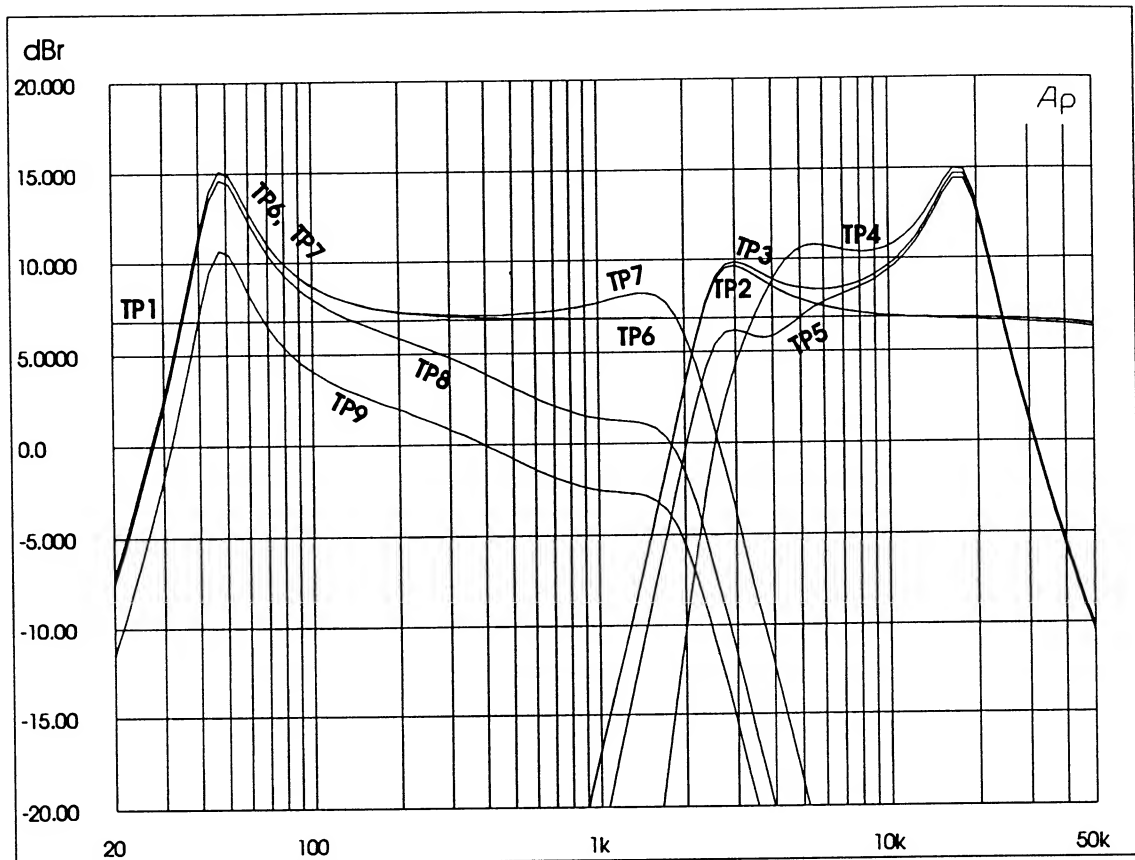
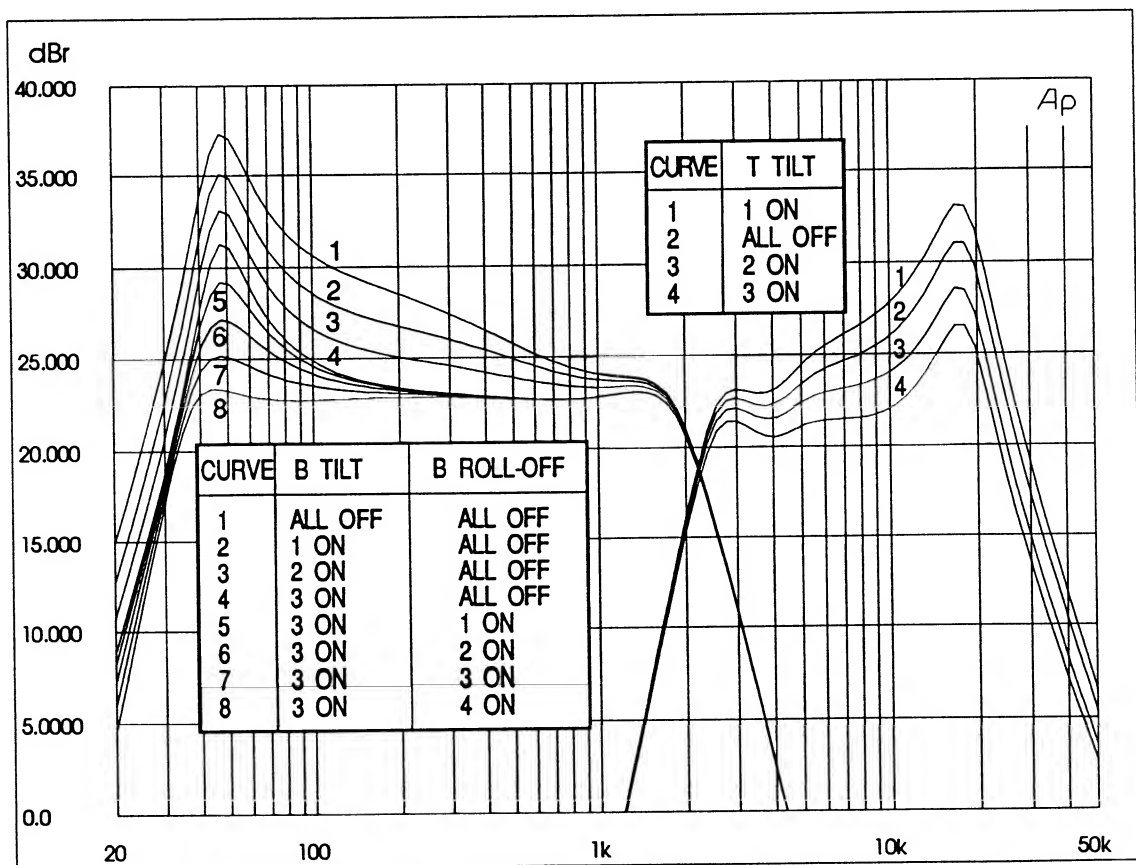
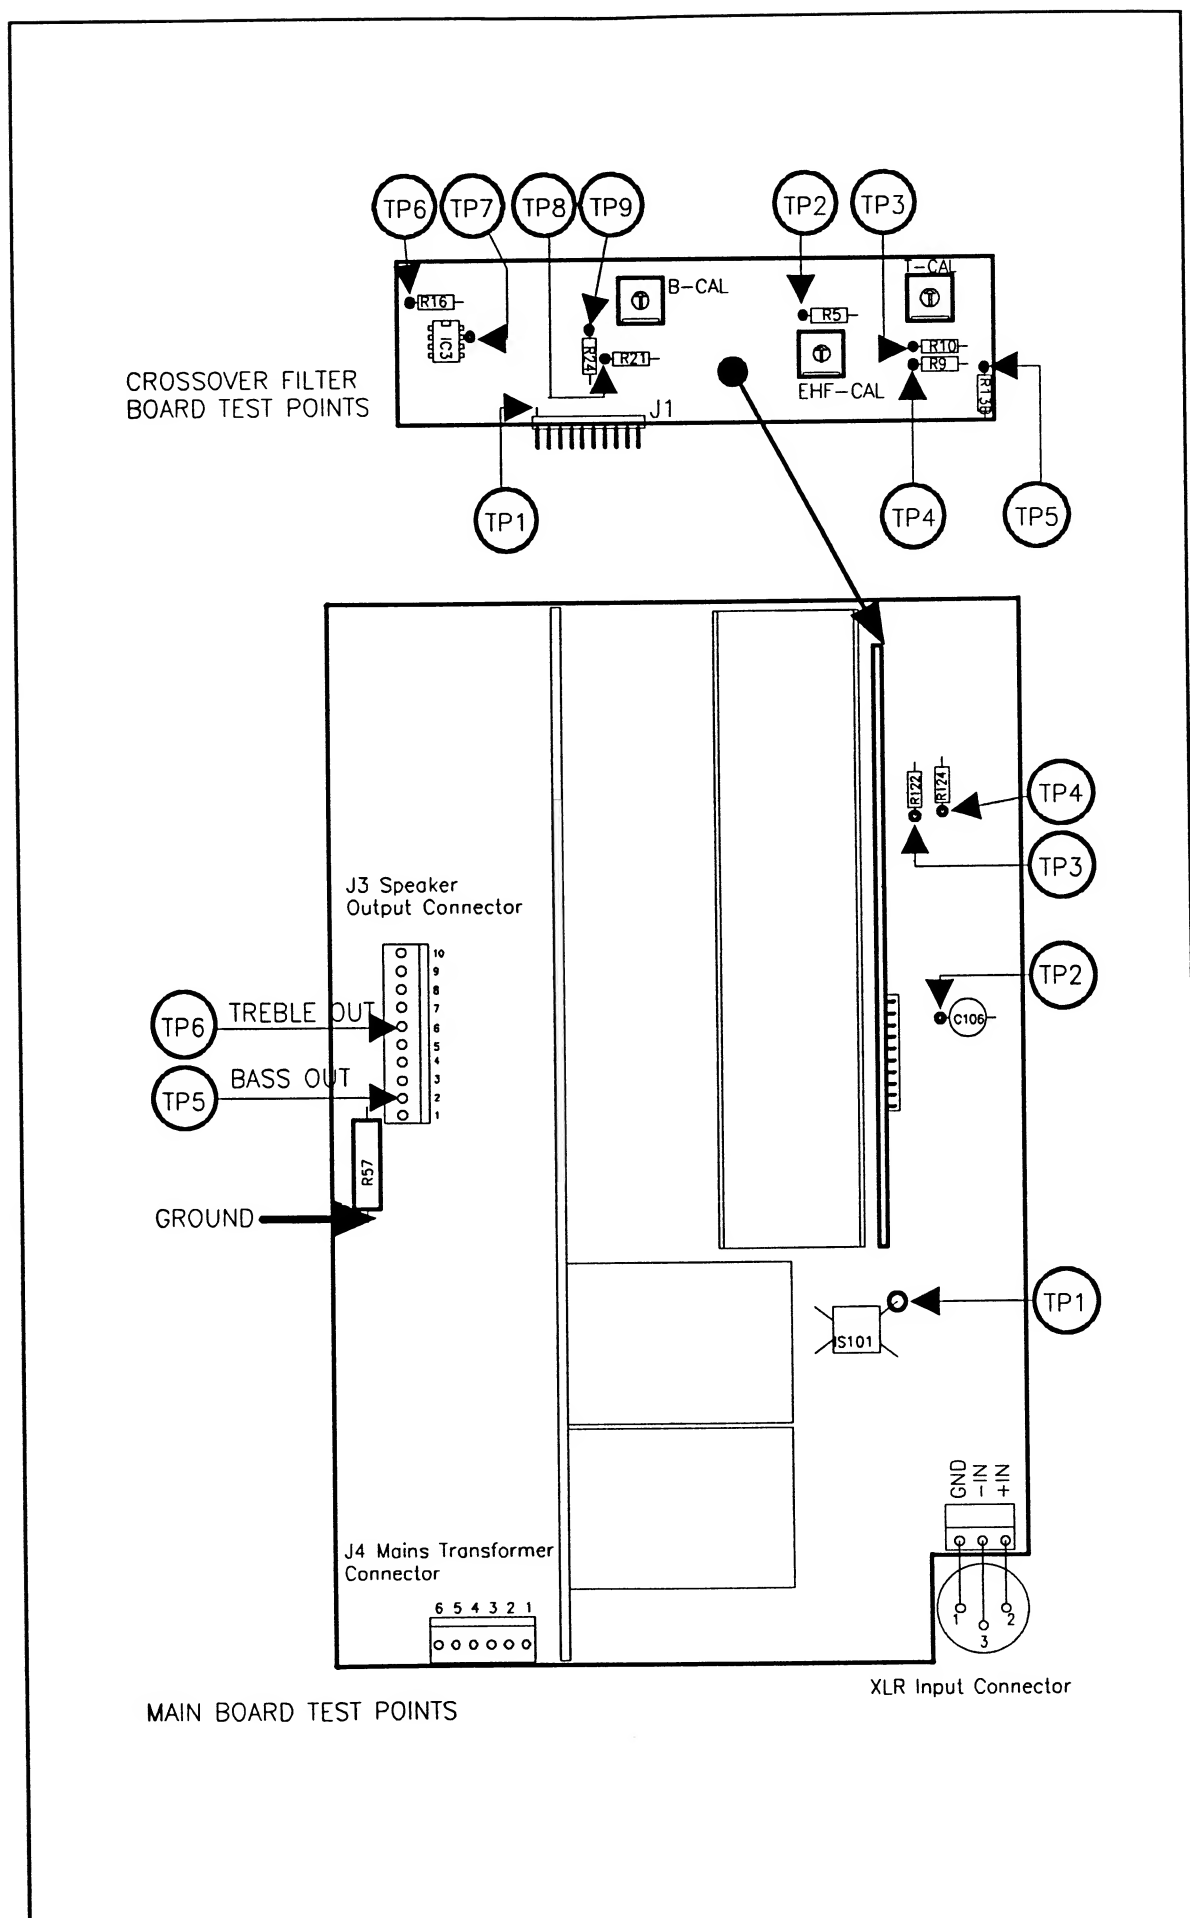

Figure 4.2 Crossover filter response curves
Figure 4.3 Total voltage gain curves and the effect of the crossover controls
Figure 4.4 The location of test points
Troubleshooting information on the 1031A Monitoring System incorporates voltage level values and notes included as part of the circuit diagrams and level diagrams. The curves in figure 4.2 show the frequency responses of crossover filter channels. The vertical scale shows directly the AC voltage gain of bass and treble channels, measured between the XLR-input connector and the test points on the crossover filter board.
Figure 4.3 shows the total voltage gain between XLR input connector and speaker output connector J3 for bass and treble channels. The location of test points is shown in Figure 4.4.
~~NOTE:~~ Note that the total voltage gain values shown in Figure 4.3 depend on the sensitivity of the driver elements, because the channel gain calibrating trimmers TR1, TR2 and TR3 affect the gain and they are set for flat acoustic response. However, the variation should not be more than a few decibels from the values presented.
- Measure the AC voltage levels at crossover filter test points TP6 ... TP9 (see Figure 4.4) at different bass frequencies between 20 Hz and 3 kHz and compare the results to the values read from the response curves in figure 4.2. If a dB scaled AC voltage meter is available the gain values can be read directly from meter scale after referencing the meter to input level of 100 mV RMS. Otherwise a simple calculation is needed (gain in dB =  $20 \times \log U_{\text{meas}}/0.1\text{V}$ ).
- Measure the AC voltage levels at the test points TP2 ... TP5 at different treble frequencies between 1 kHz and 20 kHz and compare the results to the values read from the response curves in figure 4.2.
- Repeat steps above but use the main board test points TP5 (pin 2, bass out) and TP6 (pin 4, treble out) at power amplifier output connector J3. Compare the results to the values read from the response curves in figure 4.3. Be sure that no load is connected to the speaker connector during measurement. Because of negative output impedance used in bass amplifier output, the voltage gain depends on the load impedance.
- Measure the voltage level at the bass power amplifier output (test point TP5 in figure 4.4) with an oscilloscope or RMS voltage meter. Slowly increase the generator output level and see that the power amplifier output level increases accordingly up to 15 V RMS. This corresponds a generator level of 1 V (RMS). Raise the generator level to 2 V (RMS), which corresponds the clipping level of bass power amplifier, and note that the output level does not exceed 15.5 V (RMS).
- Measure the voltage level at the treble power amplifier output (test point TP6 in figure 4.4) with an oscilloscope or RMS voltage meter. Slowly increase the generator output level and see that the power amplifier output level increases accordingly up to 4.5 V RMS. This corresponds a generator level of 230 mV (RMS). Raise the generator level to 1.5 V (RMS), which corresponds the clipping level of treble power amplifier, and note that the output level does not exceed 5 V (RMS).